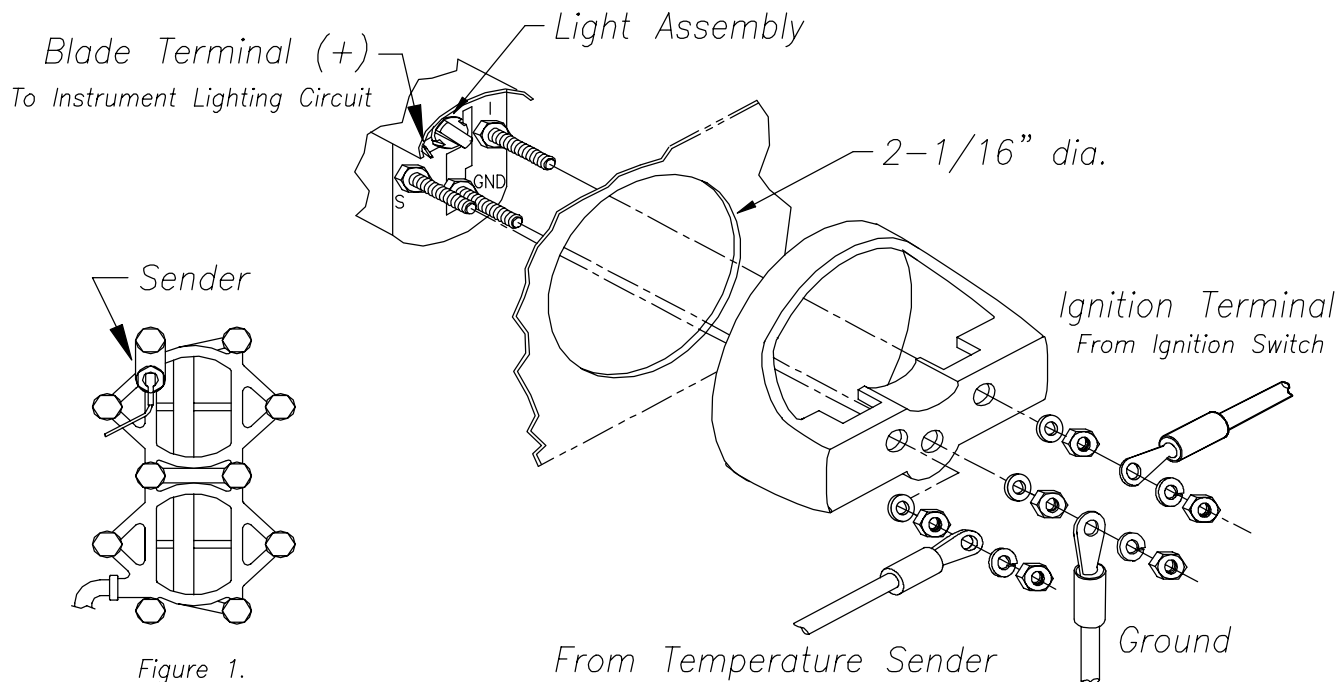

Figure 1.
2. Remove one head bolt from the cylinder head nearest the top of engine. Place head bolt through hole in sending unit and mount on cylinder head as shown in Figure 1. The body of the sender unit must be flat against the cylinder head in order to provide correct readings. Replace head bolt and torque to recommended foot-pounds (see engine manual).